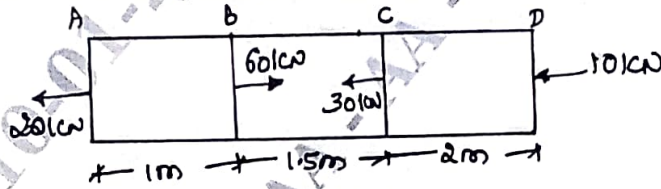

Fig.Q.1(b)
b. A brass bar, having cross-sectional area of 2000 mm^2 , is subjected to axial forces as shown in Fig.Q.1(b). Find the total elongation of the bar. Take $E = 1.05 \times 10^5 \text{ MPa}$.